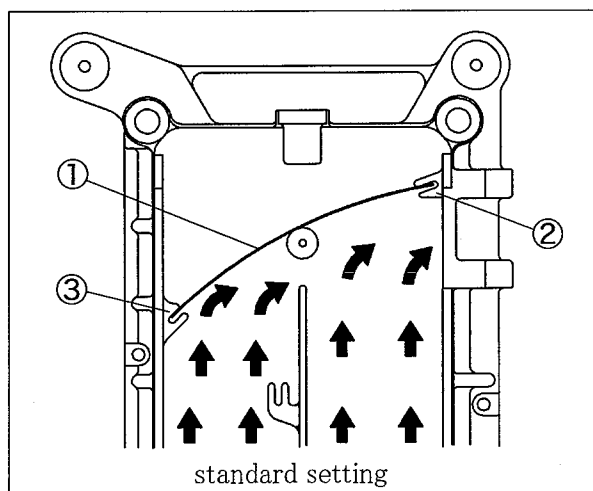

Fig. 7-2
To set the standard position, insert the air deflector ① into the guides ② and ③. (See Fig. 7-2)